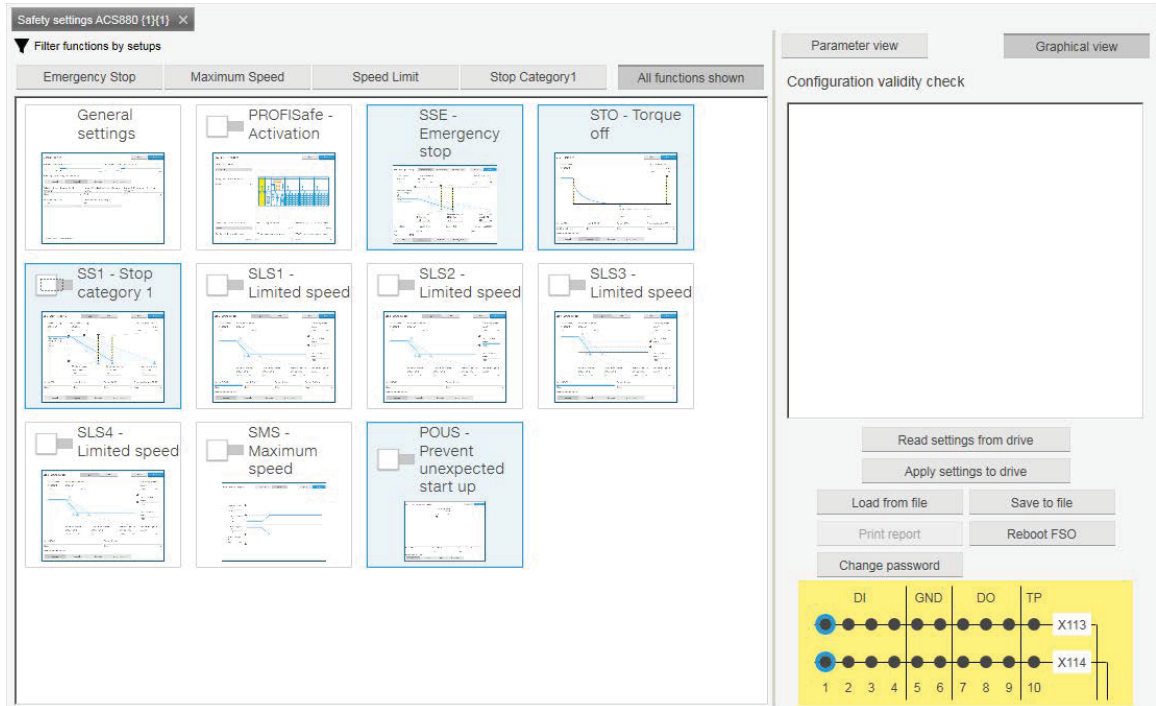

Figure 118. FSO configuration: Graphical view
You can switch between **Graphical view** and **Parameter view**. See Figure 118.FSO configuration: Graphical view and Figure 119.FSO configuration: Parameter view.
- Graphical view cannot be used for setting safe IO, cascade function or for SBC function (see Figure 118.FSO configuration: Graphical view). Instead use the Parameter view (see Figure 119.FSO configuration: Parameter view).